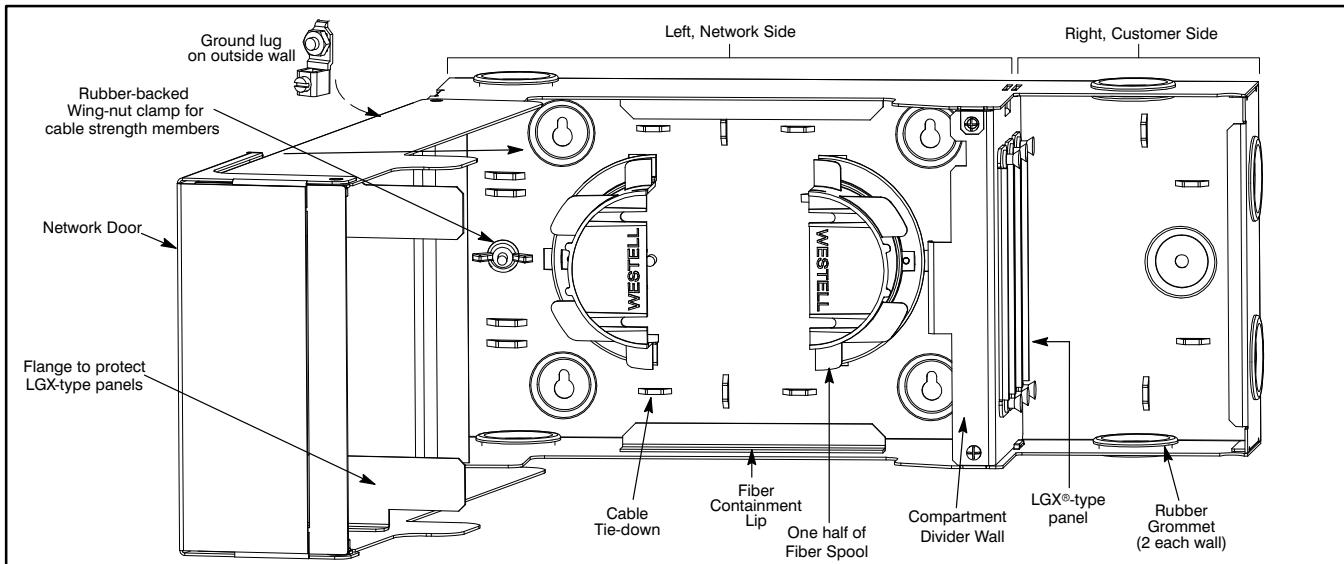
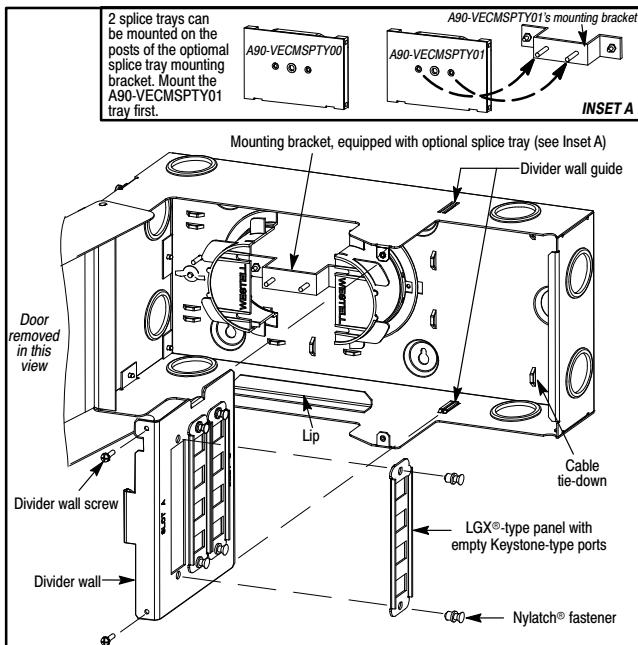

Figure 4. VEUE-30 with Network Door Open
Figure 5. Detaching the Divider Wall and Panels
The enclosure is shipped from the factory with a ground lug (in a bag of parts) capable of accepting #6 ground wire for wall-mount applications. The installer should locate the ground lug and hex-nut from the bag of parts shipped with the panel and install the lug (using the provided screw) on the post located on the left outside wall of the enclosure (see Figure 4), securing the ground lug via the threaded hole in the enclosure. The installer then makes the ground connection to the ground lug using a #6 ground wire and then grounds the enclosure to an earth ground or according to local installation procedures for grounding and bonding equipment.
After mounting the enclosure, installer connections may be performed. Figure 4 and Figure 5 show the interior removable compartment divider wall where the couplers will be installed.
1. Open the large Network-side door (Figure 4) with the key.
2. For easy hand access, optionally remove the interior compartment divider wall (see Figure 5) by loosening the two Phillips-head screws at the front of the divider and sliding or pulling out the divider wall.
9. Perform any required splicing, per company practice. *Up to 2 optional fiber splice trays (for up to 24 splices) can be mounted inside the VEUE-30 (see Table 2 for ordering information). To mount the trays: 1) Remove the 2-piece fiber spool, 2) install the bracket equipped with the A90-VECMSPTY01 splice tray to the posts [Figure 5] on the enclosure's rear wall, 3) re-install the 2-piece spool, and 4) mount the trays to the bracket after splicing is performed by aligning the holes in the tray(s) with the mounting posts provided for them on the bracket.*